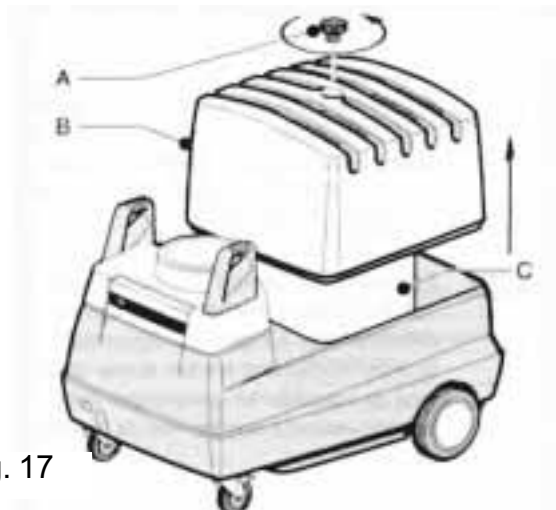

Fig. 17
2. Unscrew the thumb nut (Fig. 17, Item A) and remove the filter cover (Fig. 17, Item B).